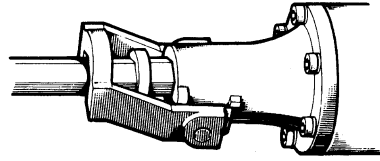

Fig. 3
- (2) Swing the retainer back into place so that it engages the accessory shank portion and prevents accessories from coming out of front cover. (Fig. 3)